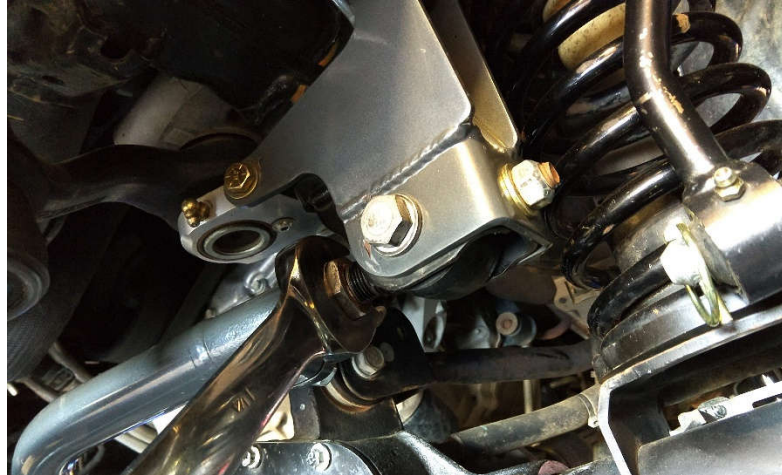

Figure 7. Adjusting the Track Bar to Center the Axle
7. With the Jeep on the ground at ride height, use the double adjuster to center the axle under the body of the vehicle. You can measure from the frame to the tire on each side, or use a straight edge on the outside of the tires to measure to the fenders on each side in order to get the axle centered. Make sure the adjuster sleeve end is adjusted by turning the adjuster sleeve and not the bushing end or track bar itself. If the side to side measurement is off by a total of 1", then you would need to adjust the track bar 1/2" to center it. Turning the adjuster clockwise shortens the bar, moving the axle towards the driver side of the vehicle. We recommend rotating the sleeve until one of the slots in the sleeve lines up with the slot in the track bar. See **Figure 7**.